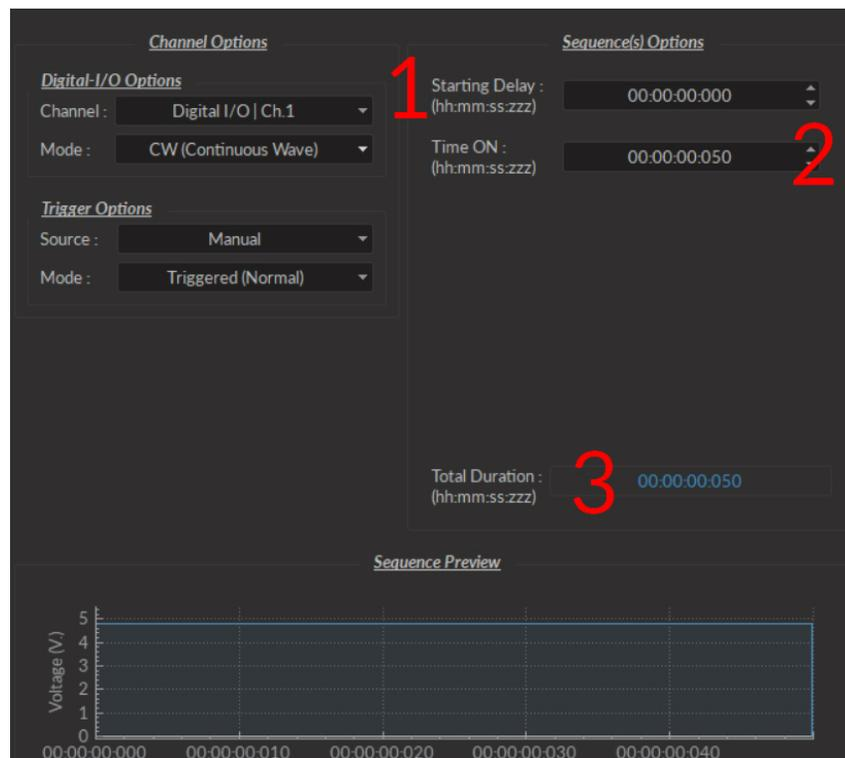

Figure 3.3: Channel(s) configuration window, Digital I/O CW
- The **CW(Continuous Wave)** channel mode (Fig. 3.3) allows the creation of a continuous TTL pulse sequence. The following elements appear in the **Sequence Options** box.